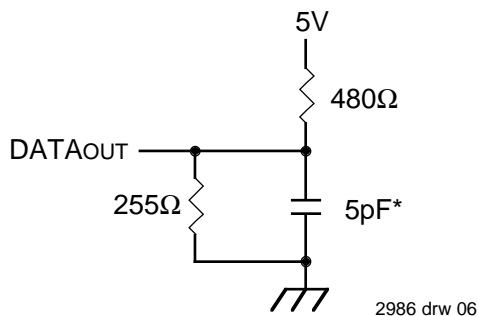

Figure 2. AC Test Load
4. Transition is measured  $\pm 200\text{mV}$  from steady state voltage with specified loading in Figure 2.